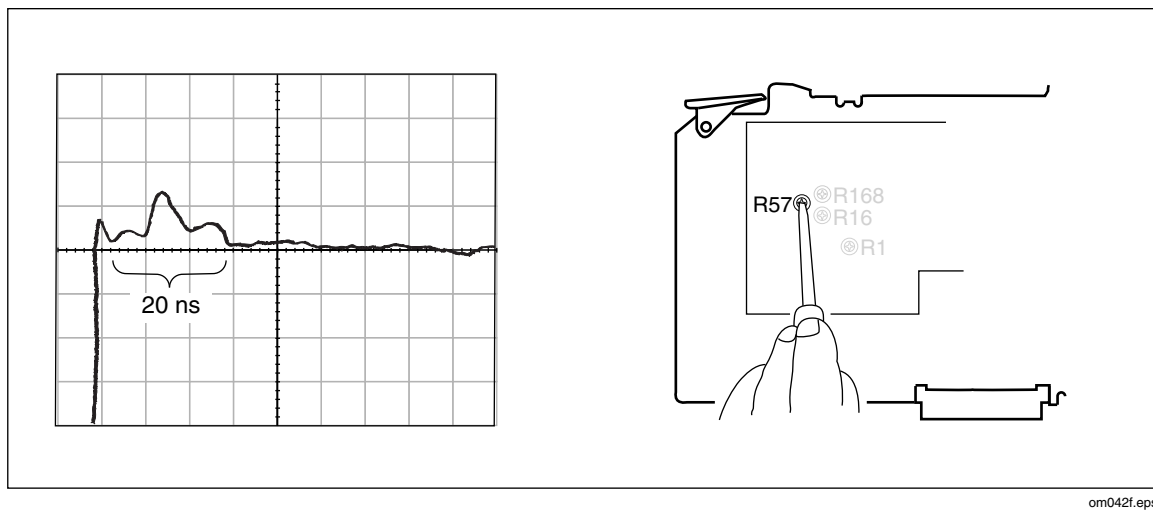

Figure 6-19. Adjusting the Peak Base with R57
5. Adjust R57 so the rising edge falls back and crosses the horizontal center line one division before the vertical center. The edge should cross the center line at two points, where it rises and falls, and these points should be 20 ns apart. Refer to Figure 6-19.